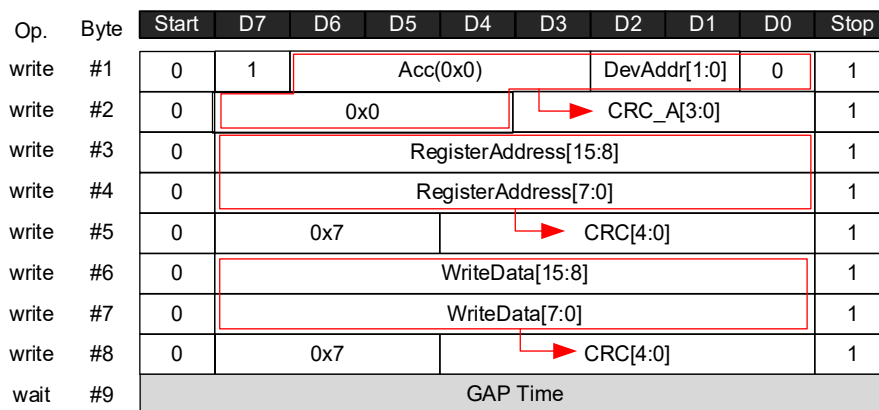

Figure 45. UART register write mode
- 16-bit register write (Figure 45)
The Write Frame structure can be seen in Figure 45 where: